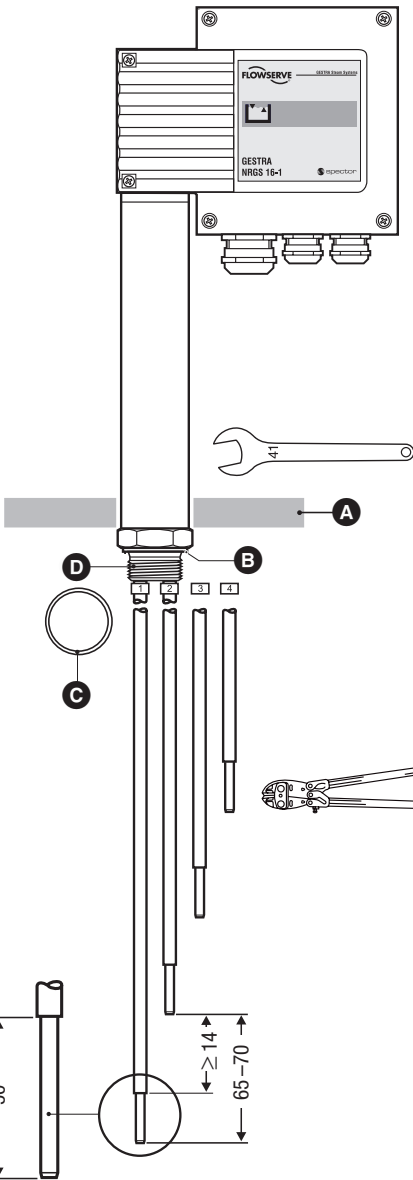

Fig. 3
1. Determine required measuring lengths of electrode tips and enter data in table **Fig. 3**.
6. Place joint ring **C** onto seating surface **B** of electrode **Fig. 3**. Use only joint ring (of stainless steel 1.4301) D 33 x 39 to DIN 7603 supplied with electrode.